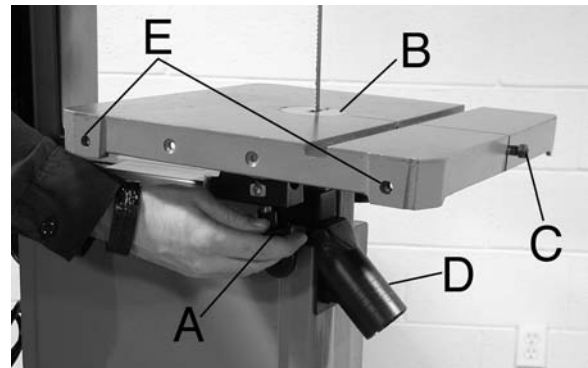
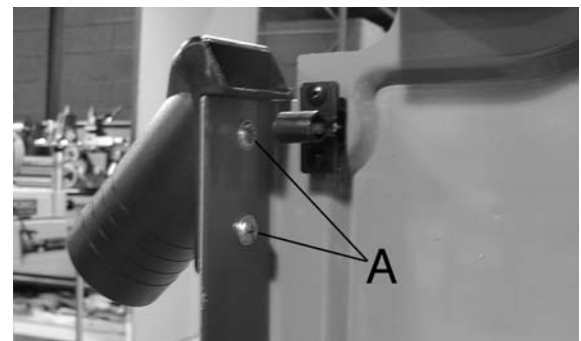

FIGURE 4
FIGURE 5
2. Thread the saw blade through the slot to the centre of the table, turn the table so the bolts dangling from its underside align with the holes in the trunnion bracket and lower it into place. Locate the two hand wheels (A-Fig.4) from the hardware bag, install and tighten into place.
3. **Table insert:** Place the table insert (B-Fig.4) in the hole in the table, make sure the pin in the table protrudes through the insert.
6. The pin (C- Fig.4) that looks like a bolt with no threads, should be tapped into the hole in the right side of the table.
1. The dust chute (D- Fig.4) is assembled to the lower wheel cover. Open lower wheel cover and using two pan hd. bolts (A- Fig.5), secure dust chute into place as shown in Fig.5.